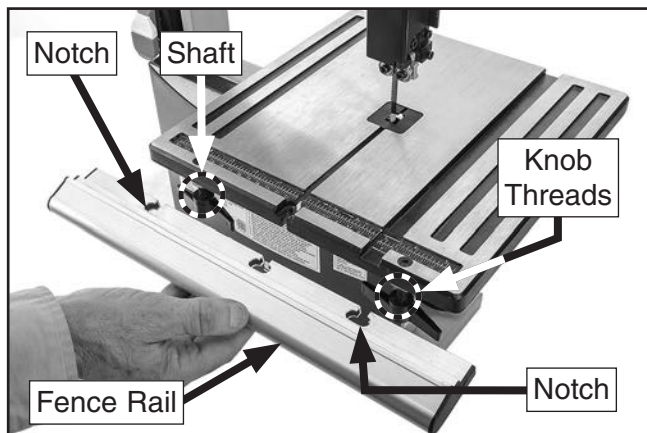

Figure 15. Installing fence rail.
8. Slide fence rail notches over knob threads (see **Figure 15**), then tighten knobs to secure fence rail snug against edge of table.